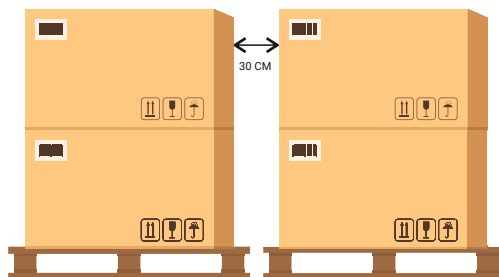

Figure 6
- ✦ The modules should be neatly arranged with sufficient space between them. The distance between boxes should be at least 30cm (Figure 6)